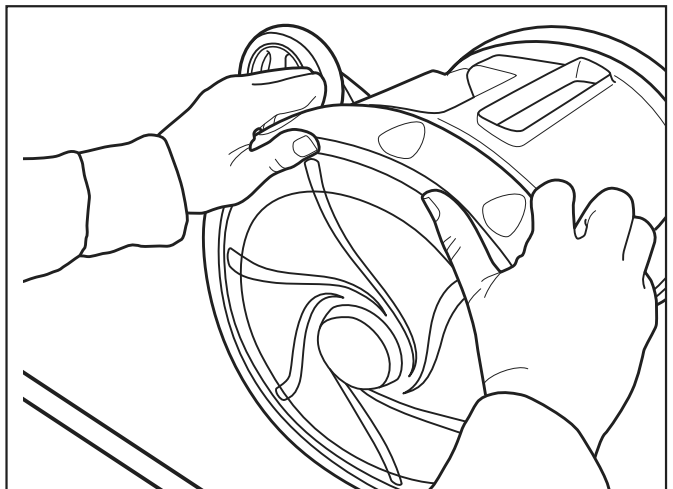

Figure 21. Push the Tire Into Place
5. Work the tire around and onto the wheel. Refer to Figure 21.